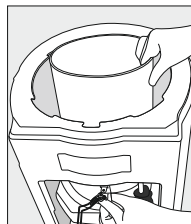

Figure 37
7. Use both hands, loosen the reservoir from the evaporator band and lift it straight through the cooler opening (Figure 37)